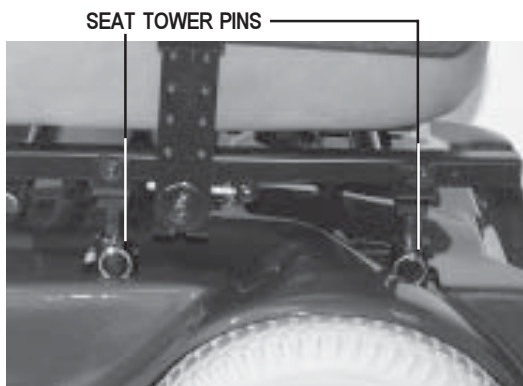

Figure 11. Seat Tower Pins
2. Remove the seat tower pins. See figure 11. You may need to rotate the pins back and forth to remove them.